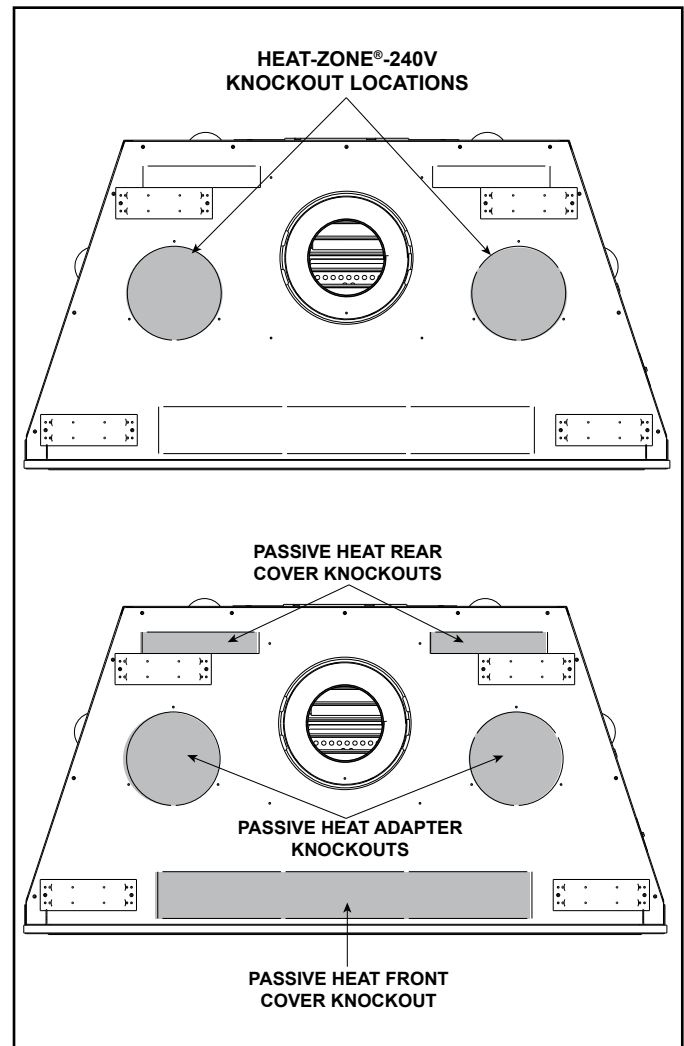

Figure 6.12 Heat Management Knockout Locations
- Locate the two heat management knockouts on the top of the appliance. Remove the knockout from the fireplace and discard it. See Figure 6.12. Either one or two heat management systems may be installed. Remove the knockout(s) from the appliance with a tin snips.
Passive Heat may be used with HEAT-ZONE®-240V. The dedicated knockouts, as shown in Figure 6.12, must be used only as indicated.